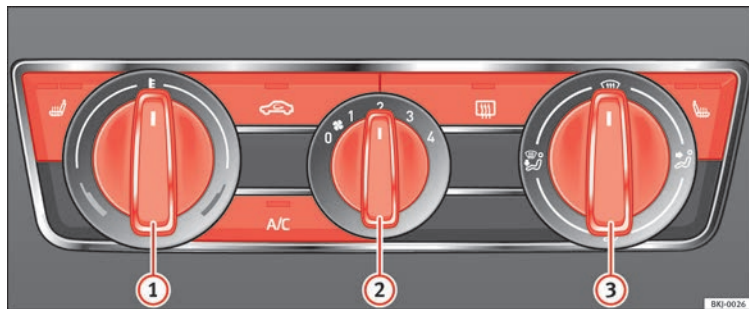

Fig. 146 Air conditioning controls on the dash panel.
- Disconnect the cooling system using button **A/C** » **Fig. 146** (the button light turns off).